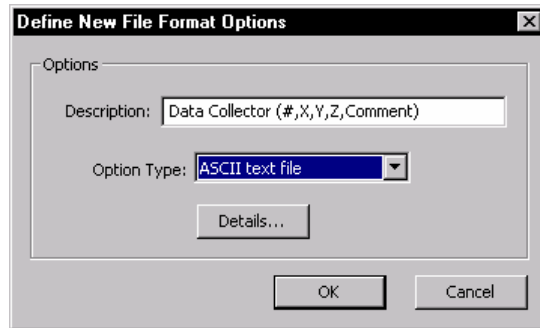

Figure 5.3: Define New File Format Options Dialog
3. Press the *Add* button to activate the *Define New File Format Options* dialog as shown in Figure 5.3.